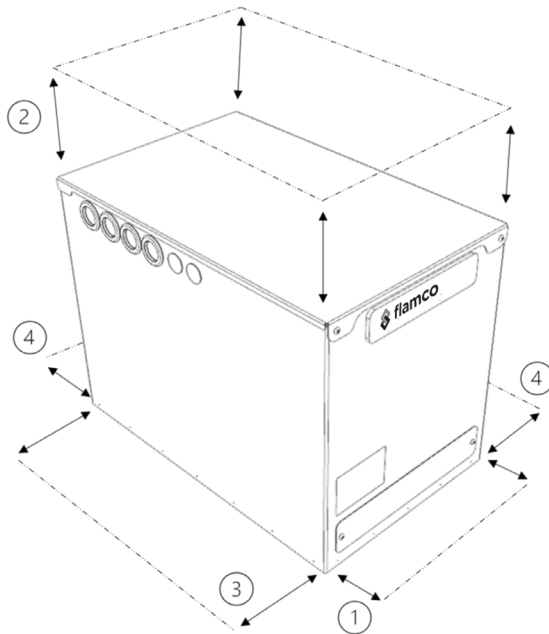

Figure 5 - Flextherm Eco G2 D Heat Battery Spatial Requirements
- Assess the location where the Heat Battery will be installed, for the spatial & clearance requirements of the Heat Battery **(Figure 5, Table 5)**.